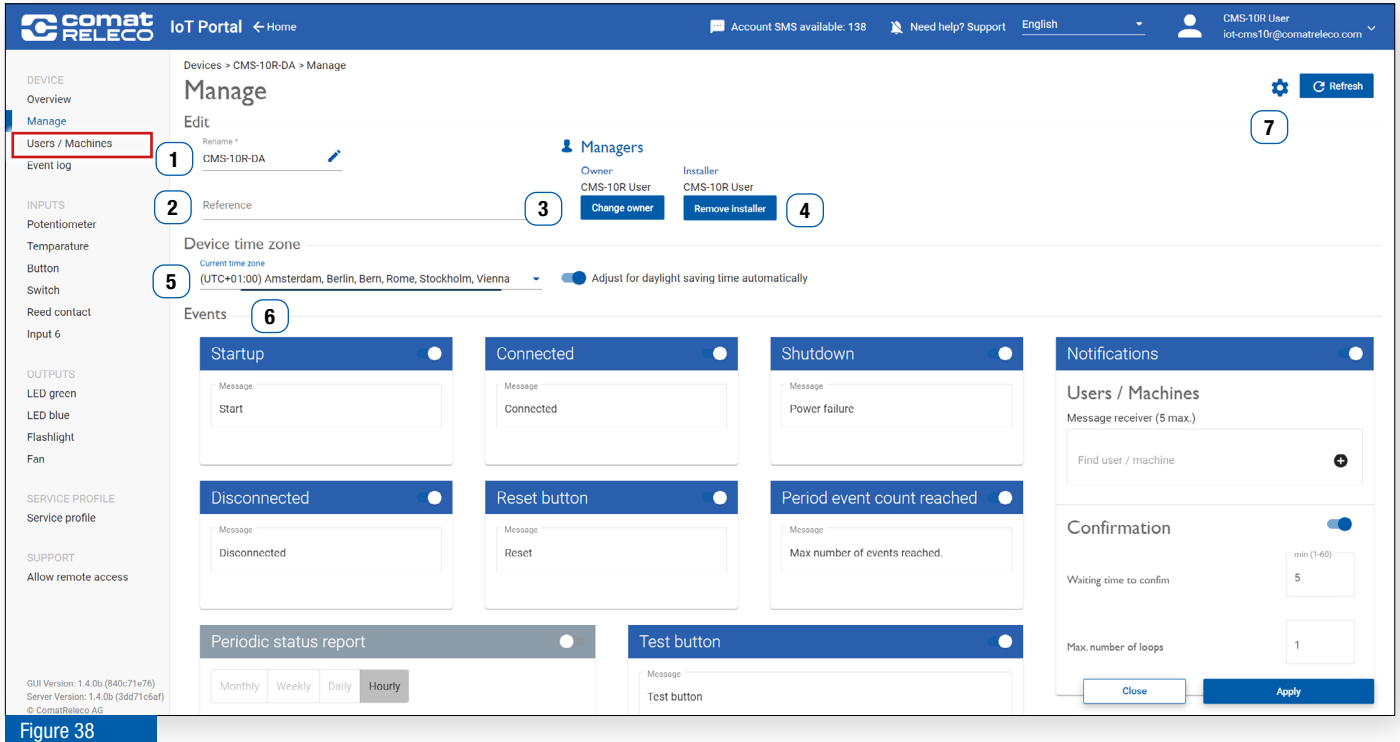

Figure 38
A new owner can be defined with the **Change owner** button (Figure 38 (3)).
The installer can be removed with the **Remove Installer** button (Figure 38 (4)).
With **Configure events** (Figure 38 (6)), notifications can be sent using the following three notification options: